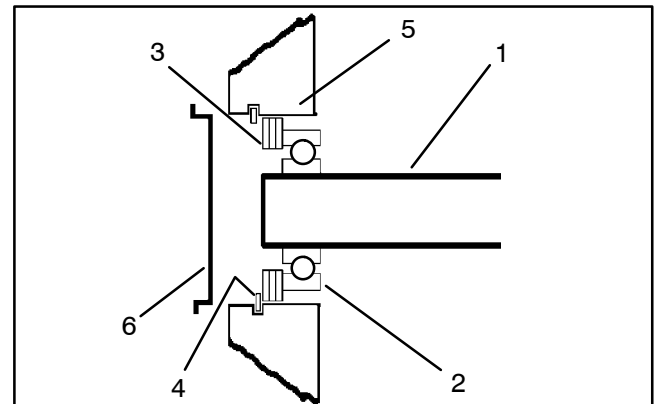

Figure 91
17. Install retaining ring into the groove of the center plate (Fig. 91 and 92).